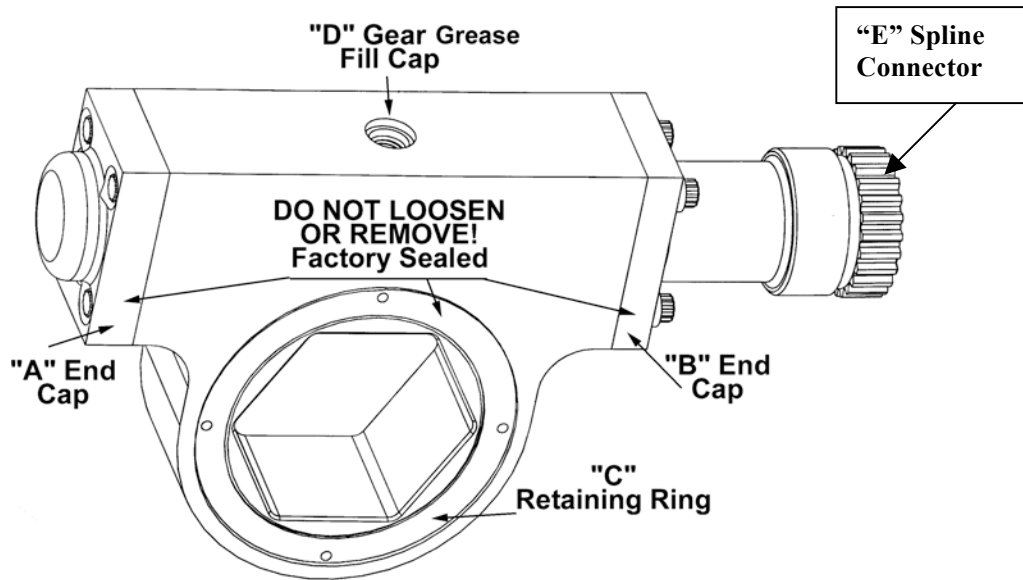

Figure 1
- 1. Each SpinTORQ hex cartridge (Fig 1) is a sealed unit. The precision gearing is installed and adjusted at the factory. DO NOT LOOSEN OR REMOVE THE END CAPS (A and B) OR THE RETAINING RING (C). Opening these connections will void the warranty.**
- 2. The SpinTORQ Housings are connected to the hydraulic motor at the splined connection (E). Several cartridges of different sizes may be interchangeably connected to the motor.**